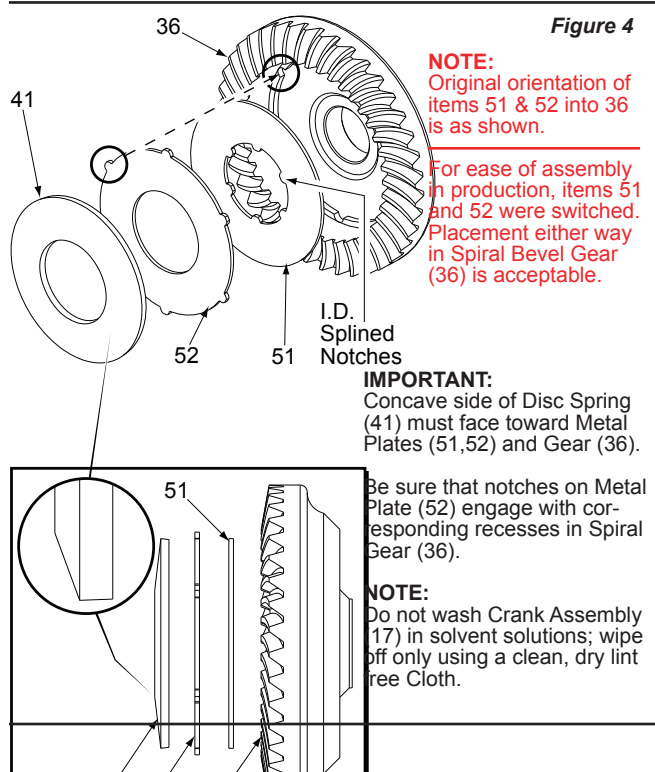

Figure 4
1. Place lubricated Gear Assembly (36, 41, 51 & 52) into Left Gearcase Assembly (29). See Figure 4 on page 3 for assembly instructions with correct Disc/Plate orientation.
2. Position assembled Spindle/Crank Assembly (17, 39, 8, 46, 53, 68, 37 & 69) into Left Gearcase. (Spindle components should be pre-lubricated with a light coating of grease prior to reassembly). *It is also beneficial to have the Barrel Cam (31) and Extension Spring (44) installed in Left Gearcase (29).* Once the Spindle/Crank Assembly is in the Left Gearcase, position/seal the Front Bushing Carrier (58) over Pivot Pin (6) that's pressed into Left Gearcase Assembly. Secure Orbit Slot (53) to the Left Gearcase Assembly using the three Screws (10) removed in disassembly.
3. Turn Crankshaft/Spindle Assembly by hand, applying a downward pressure until the splines located on the bottom of the Crank Assembly Drive Hub drop down and interlock with the splined notches in the I.D. of Metal Plate (51). Once the two pieces are interlocked together, hold the assembly down tight and turn Gearcase Assembly (29) over to enable the Right Handed Drive Bolt (5) and Spacer (47) to be slid through Ball Bearing (2). (Before installing Drive Hub Bolt (5) be sure to apply Blue Loctite® to bolt threads). Place the 3/16" x 1-1/2" long steel rod used in disassembly, back through the Counter Balance of Crankshaft Assembly (17) and slowly turn Right Handed Drive Bolt (5) in a clockwise direction until 3/16" long steel rod rests against Connecting Rod. Before tightening Drive Hub Bolt (5), make sure the raised notches located on the O.D. of Metal Plate (52) are engaged with corresponding recess in Spiral Bevel Gear (36), see Figure 4. Using an inch pound torque wrench and a 3/16" hex key, torque Drive Hub Bolt (5) to 210 in./lbs. or bolt can be tightened using a foot pound torque wrench to 17-18 ft./lbs.